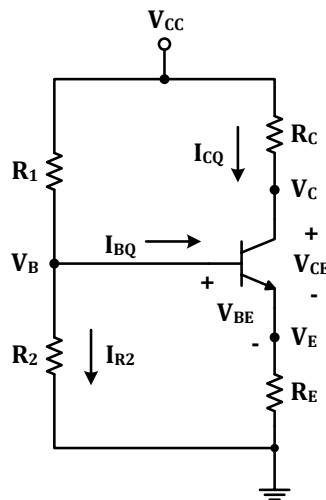

Figure 1.1
A) Figure 1.1 is a voltage divider circuit. Referring to Figure 1.1, produce the design equations for each resistor (R_1 , R_2 , R_C and R_E) based on the following information:
- $V_{CEQ} = \frac{1}{2} V_{CC}$ (1)
- $V_{BE(ON)} = 0.65 \text{ V}$ (2)
- $V_E = 0.1 V_{CC}$ (3)
- $I_{R2} = 10 I_{BQ}$ (4)
- $I_{CQ} = 6 \text{ mA}$ (5)
- $V_{CC} = 12 \text{ V}$ (6)
2. Construct the circuit (Figure 1.1) and measure the Q-point (V_{CEQ} , I_{CQ}). Compare your results to the calculated values and discuss.